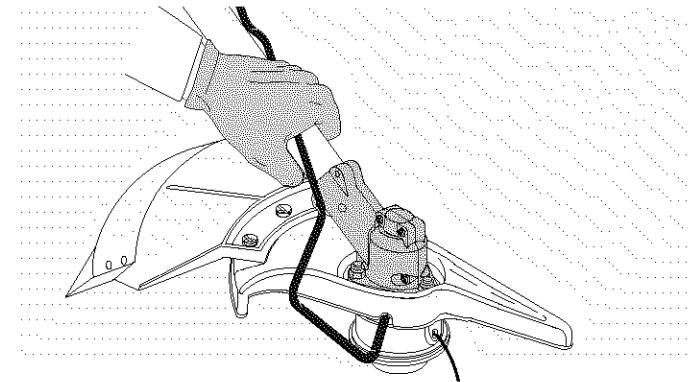

Fig. 9
2. Hold the locking rod in place by grasping it next to the boom of the unit (Fig. 9).
**WARNING:** Avoid accidental starting. Be in the starting position when pulling the starter rope (Fig. 9). The operator and unit must be in a stable position while starting to avoid serious personal injury.